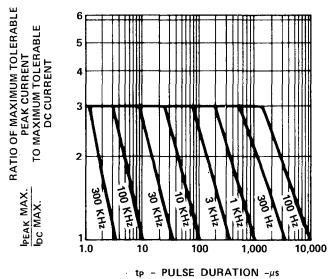

Figure 5. Maximum Tolerable Peak Current vs. Pulse Duration. ($I_{DC\ MAX}$ as per MAX Ratings).
- See Figure 5 (Red/Orange), 10 (Yellow) or 15 (Green) to establish pulsed operating conditions.